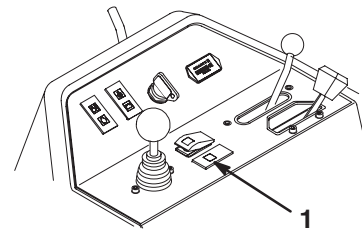

Figure 4
1. Unplug the harness connector from the water in fuel indicator light (Fig. 4). Discard indicator light.